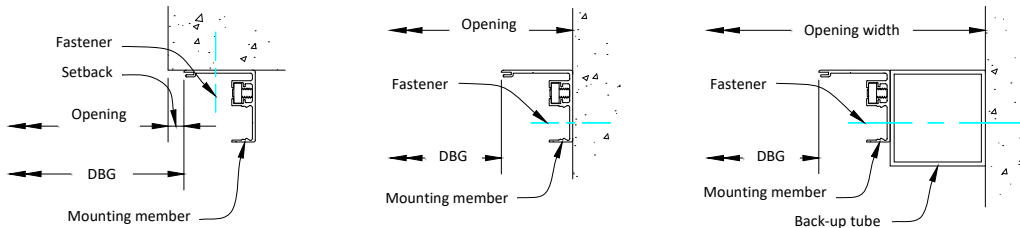

**Figure 1**
**Step 2:** Install bracket mounting flats; refer to Figure 1. Two G340P bracket mounting flats are supplied with each unit; their length equal to coil dimension. Flats are oriented such that the double holes are toward the top. Slide flats into channel of mounting member from top (top of mounting member has mounting hole which is 1-1/2” down from end). Holding top of flat flush with top of mounting member, install 5/16-18 x 5/8” set screw in third hole down of flat and tighten snugly.